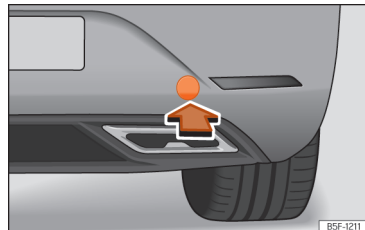

Fig. 213 Rear bumper on right: remove the lid.
The housing of the screw towing eye is on the right side of the rear bumper behind a lid »» **Fig. 213**.
- Press the lower side of the lid »» Fig. 213 to unclip it.